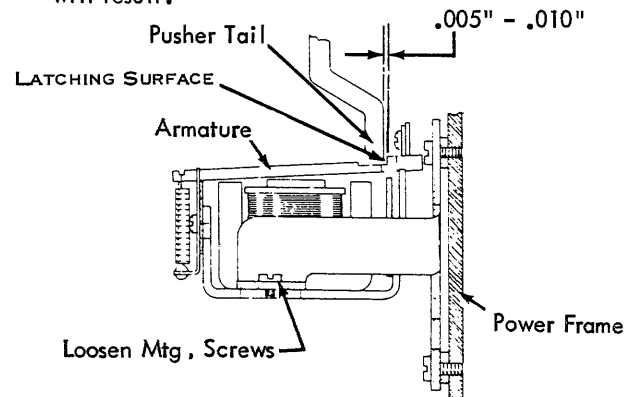

FIGURE 15. Magnet Unit Position
7. Magnet Unit (Fig. 15) - Position under its two mounting screws for .005" to .010" clearance between the pusher tails and armature latching surfaces (armatures at rest).